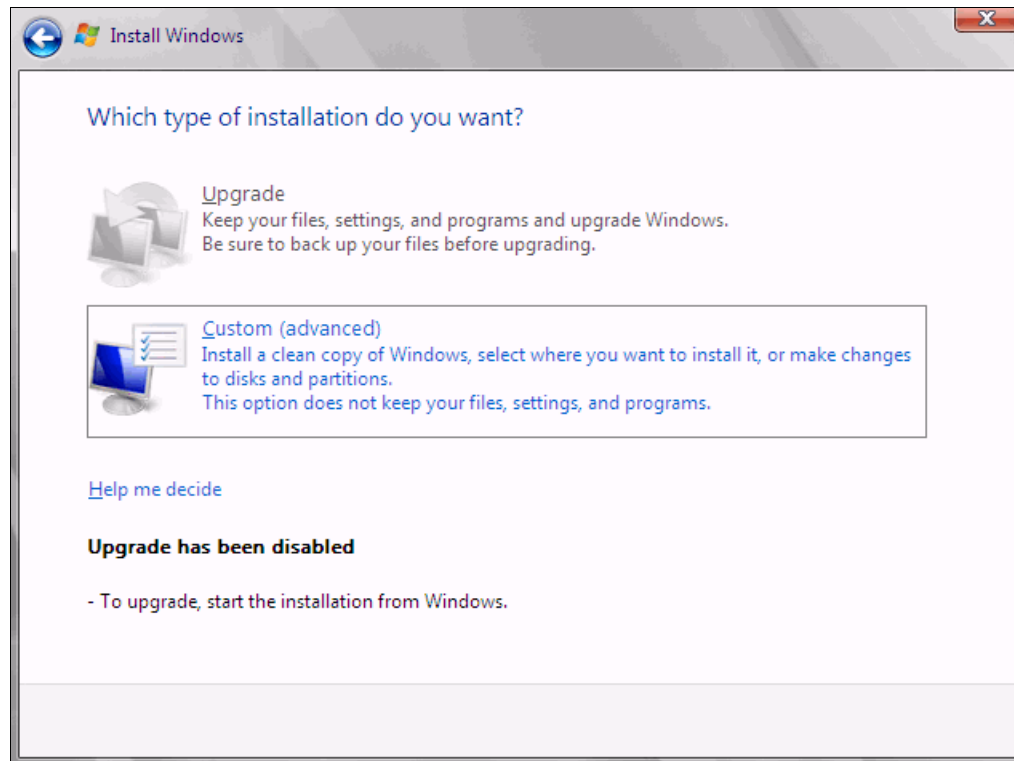

Figure 9-108 Selecting a Custom (advanced) installation
15. For the type of installation (Figure 9-108), select **Custom (advanced)** to install a clean copy of Windows. Then click **Next**.